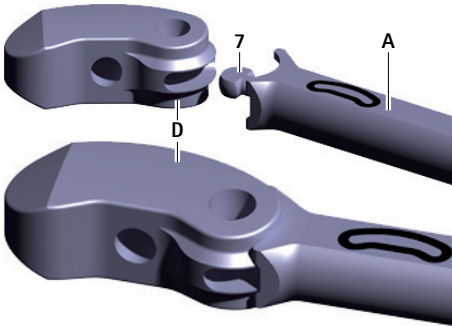

Fig. 2 Coupling the trial implant to the insertion instrument
- ▶ Couple the trial implant **D** to the dihedron **7** on the insertion instrument **A**, see Fig. 2. When doing so, pay attention to the orientation of the trial implant (orientation according to the marking on the insertion instrument).